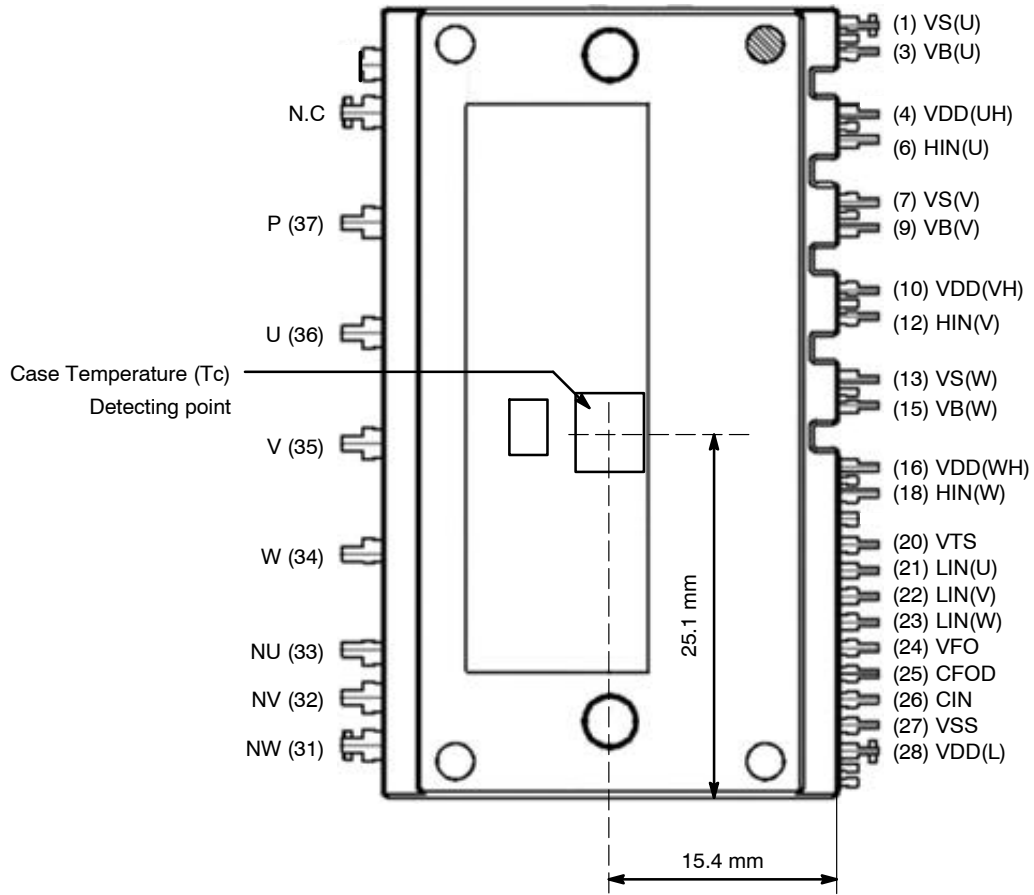

Figure 1. Pin Configuration – Top View
| Tc | Case Operation Temperature | See Figure 1 | -40~125 | °C |
- For the measurement point of case temperature (Tc), please refer to *Figure 1*.